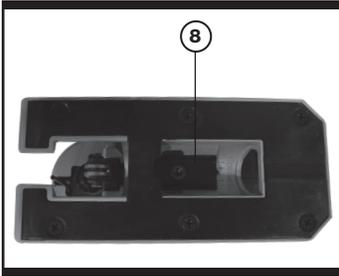

Fig 8
Use a Hex Key (5). Loosen the bolts securing the base plate (See Fig.8). For preset angles rotate so the lines of the angle on the base plate and angle plate (8) superposition at the desired angle (0, 15, 30, 45) (See Fig.9). For other mitre angles, rotate to your desired angle (use a protractor scale). Following one of the above procedures, hold the base plate in position and firmly tighten the bolts to clamp the base plate at that angle. Finally, check the angle and ensure the base plate is firmly clamped. The angle markings on the base plate are accurate for most general purposes but it is recommended for accurate work to set the angle with a protractor and make a test cut on other material.